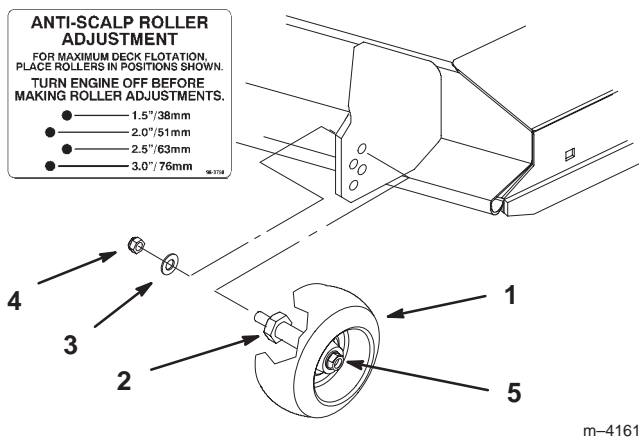

Figure 11
Note: Press on lift assist pedal when raising deck. This will help in lifting the deck (Fig. 11).
2. After adjusting height-of-cut remove flange nut and spring disk while holding stud with wrench (Fig. 11).
Note: Do not remove the wheel nut and washer (Fig. 11).
3. Select hole so gage wheel is positioned to the nearest corresponding height-of-cut desired (Fig. 11).
4. Reinstall the flange nut and spring disk. Torque to 40–45 ft-lbs. (54.2–61.0 N•m) (Fig. 11).